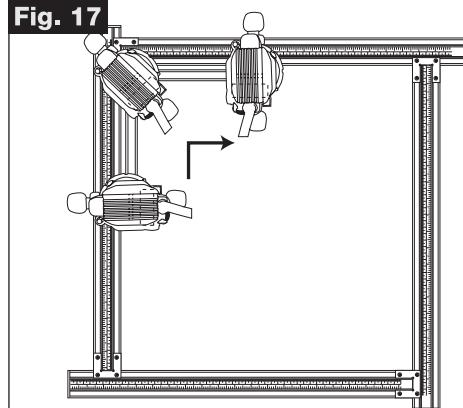

Fig. 18
- Please note corners will be rounded and not square due to rotary cutting action of the cutter. - (Fig.18)